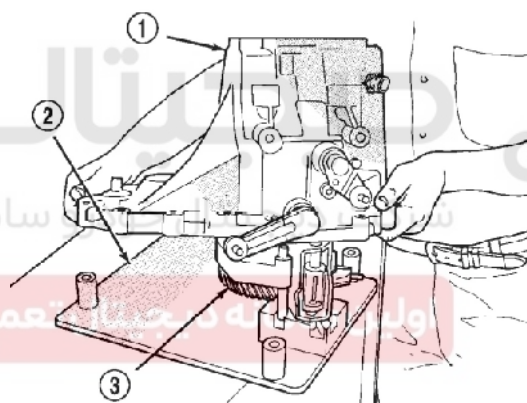

Figure 3-65 Gear box
(6) Cover the gear box on the plate jig (Figure 3-65) and enable the shift pin to stay on 3-4flange.